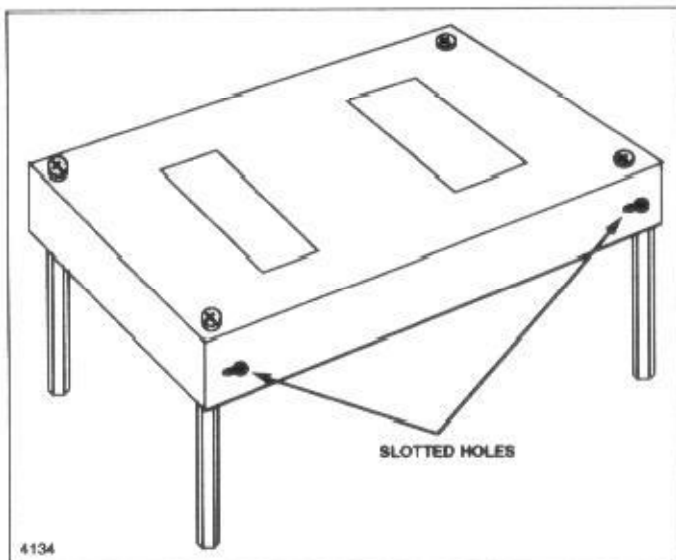

Figure 2-2. Slotted holes in controller cover.
- A. Note the positions of the slotted holes in the long side of the top cover (see figure 2-2).